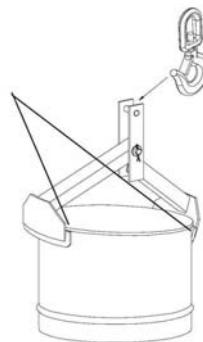

Fig. 2
2.3. Upon commencement of the lifting operation, the two ends of the clamp tend to close. Check that the clamp is lined up with the diameter of the drum and the wedge located on each side of the two arms (1 and 2) is perfectly positioned under the flange of the drum to be lifted. (Fig.2).